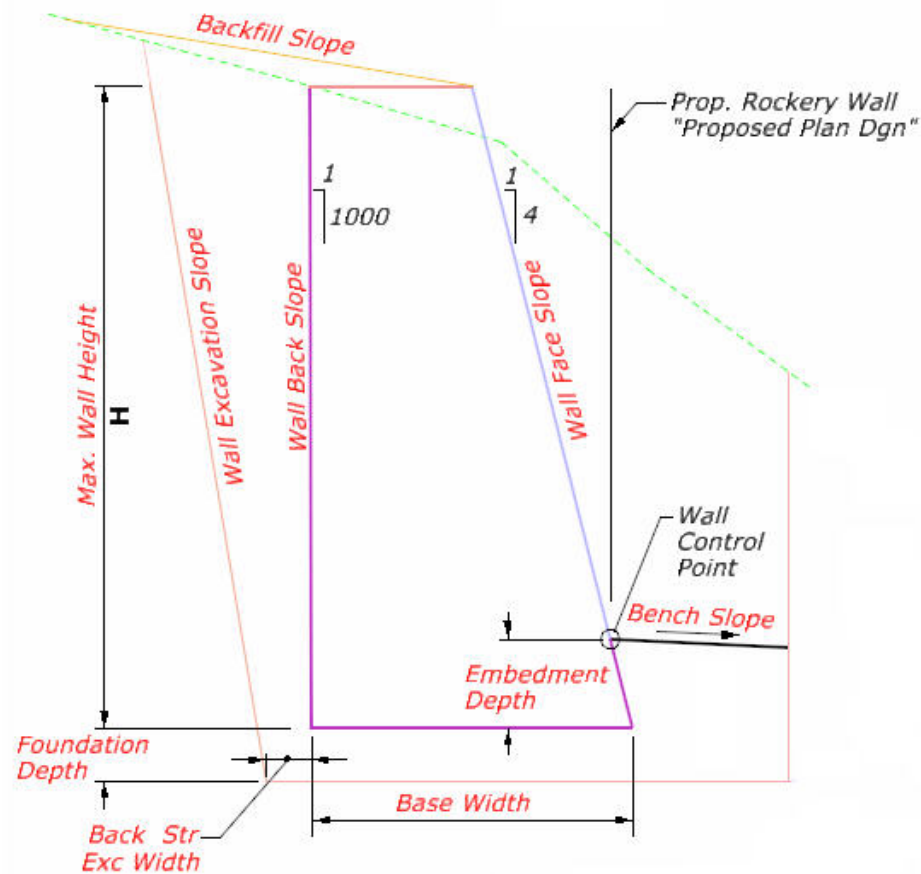

Figure 1-2: Rockery Design Parameters
- 1.1.5 Generate 1st run of proposed cross sections. *Cut existing ground cross sections based on the pattern lines created. Run the proposed cross sections for the 1st (base) tier of rockery. A second tier of Rockery will be required if the wall height is at the maximum and the 1:4 backfill slope above the Rockery cannot tie to existing ground. Refer to figure 1-2 above. If a second tier is required, it will be placed as a part of Phase 2.*